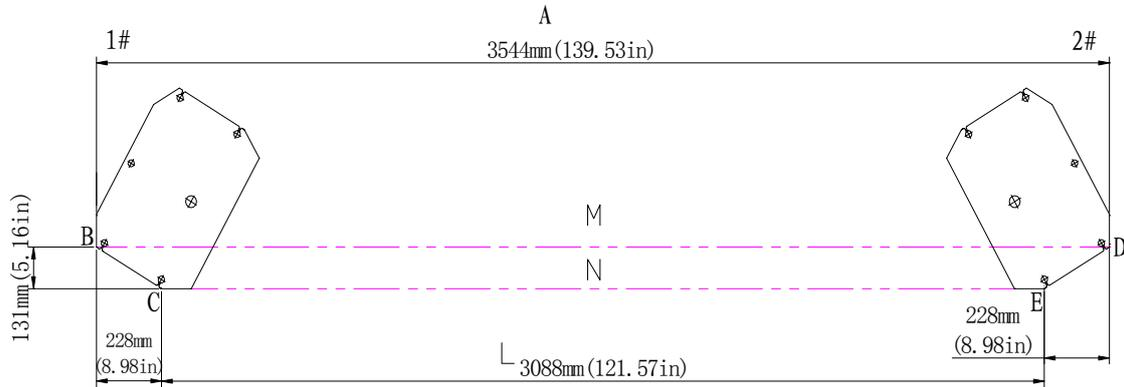
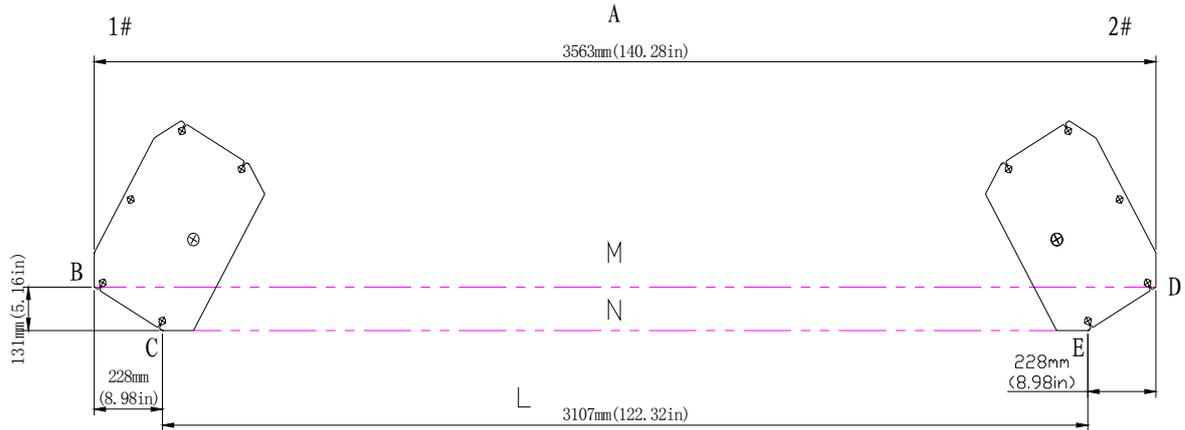

Fig.10a
Fig.10b
TLT235SC(U) asymmetric installation is shown in Fig.10a, TLT235SC、TLT240SC asymmetric installation is shown in Fig.10b:
- With total width (A) as the basis, draw two parallel lines (#1 and #2) on the concrete slab, with the error within 3mm.